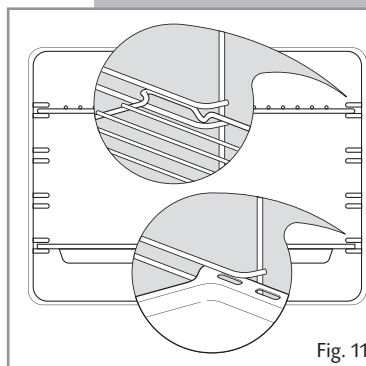

Fig. 11
- Slide the drip pan and rack into the runners as shown in fig. 11.